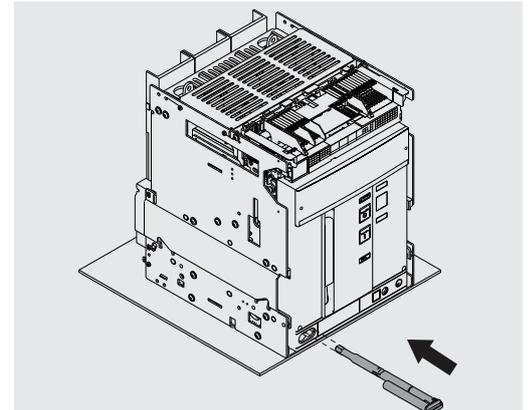

Figure 93
13. Replace the crank in its housing See Figure 93.